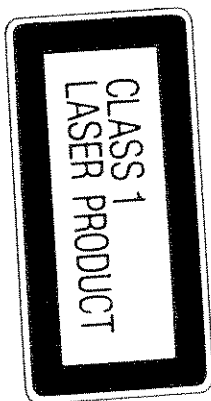
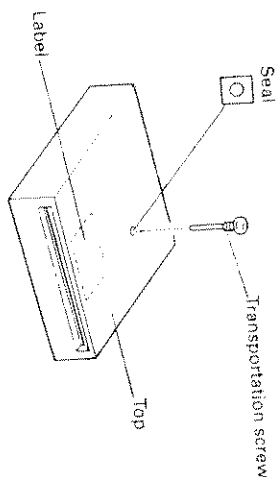

Fig. 1
Fig. 2
- A "CLASS 1 LASER PRODUCT" label is affixed to the bottom of the player. (Fig. 1) (Fig. 2)
- There is a screw on the top of the unit to protect the unit and transportation. Remove the screw before installing the unit and fix the seal supplied over the unit later. (Fig. 2)